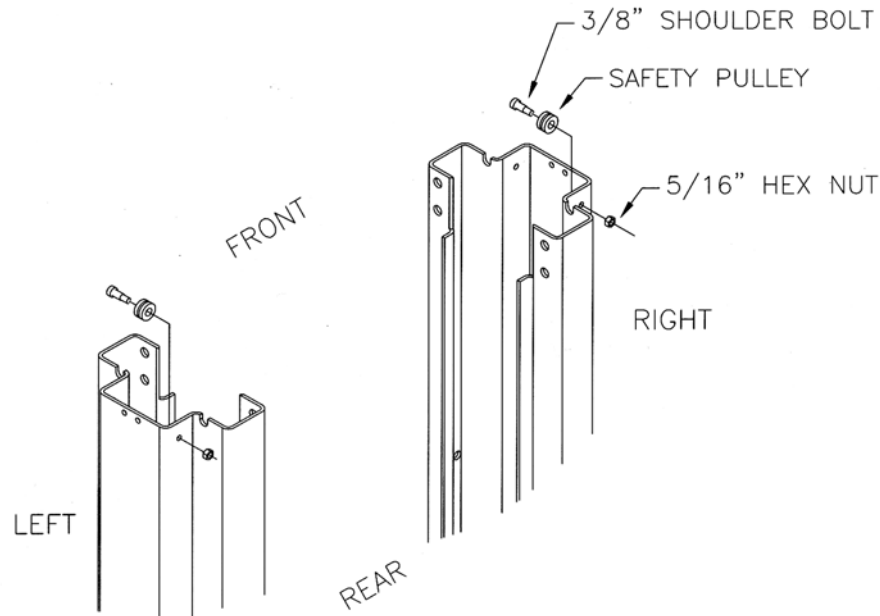

Figure 9 - Safety Release Pulley Installation
1. Install the safety pulley on each tower as shown in **Figure 9**. Attach the safety pulley to the tower using the 3/8" x 5/8" LG. shoulder bolt, 5/16" lockwasher and 5/16" hex nut.